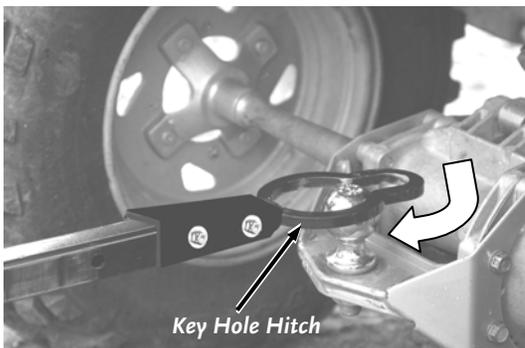

Figure 15
- Stop the engine and put the transmission in 1st gear. Set the Parking Brake on your ATV (if you have one), lift the Tow Bar on the DR POWER GRADER and slip the Keyhole Hitch over the Hitch Ball on the ATV (**Figure 15**). Pull back on the Tow Bar so the slot in the Keyhole Hitch fits around the Hitch Ball Shaft.